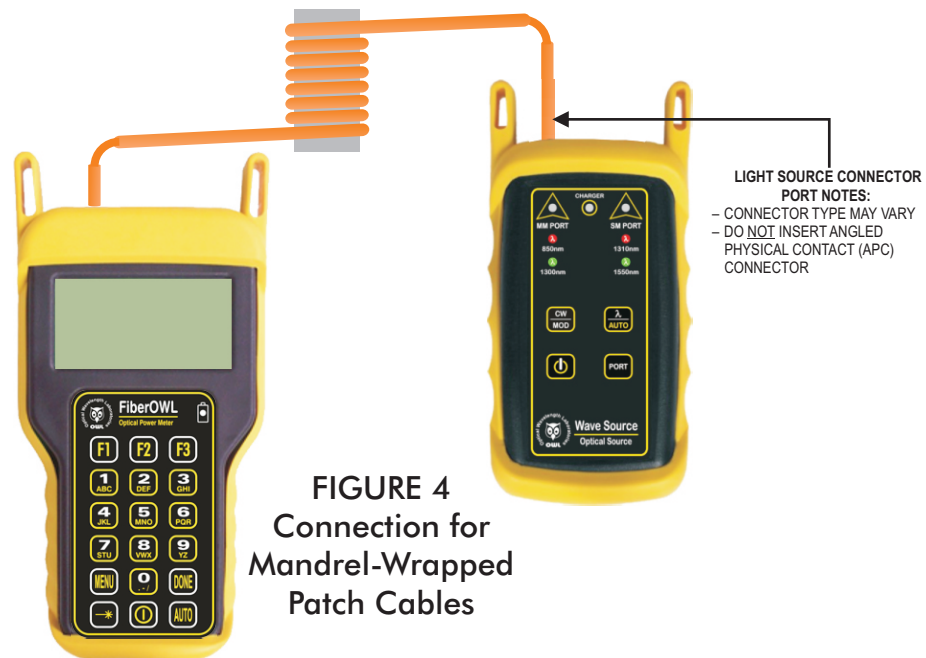

FIGURE 4
STEP 10 Connect a mandrel wrapped patch cable between the Fiber OWL 4 BOLT and the WaveSource as shown in Figure 4.